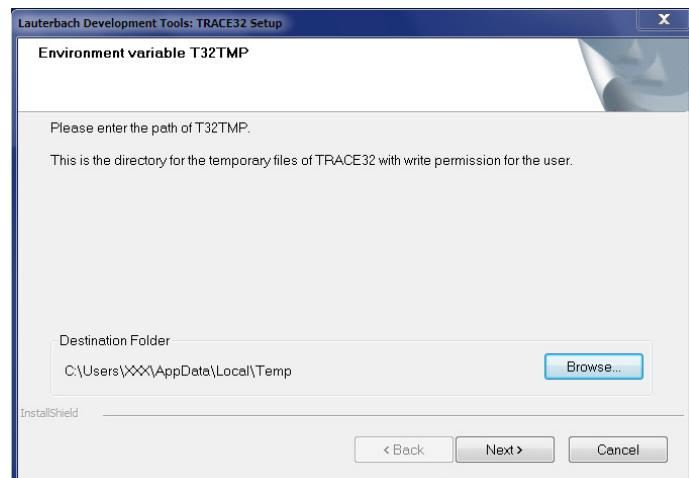

Figure 5.33: Environment variable T32TMP page
13. On the **Environment variable T32TMP** page, set the destination folder (see Figure 5.33 on page 38).